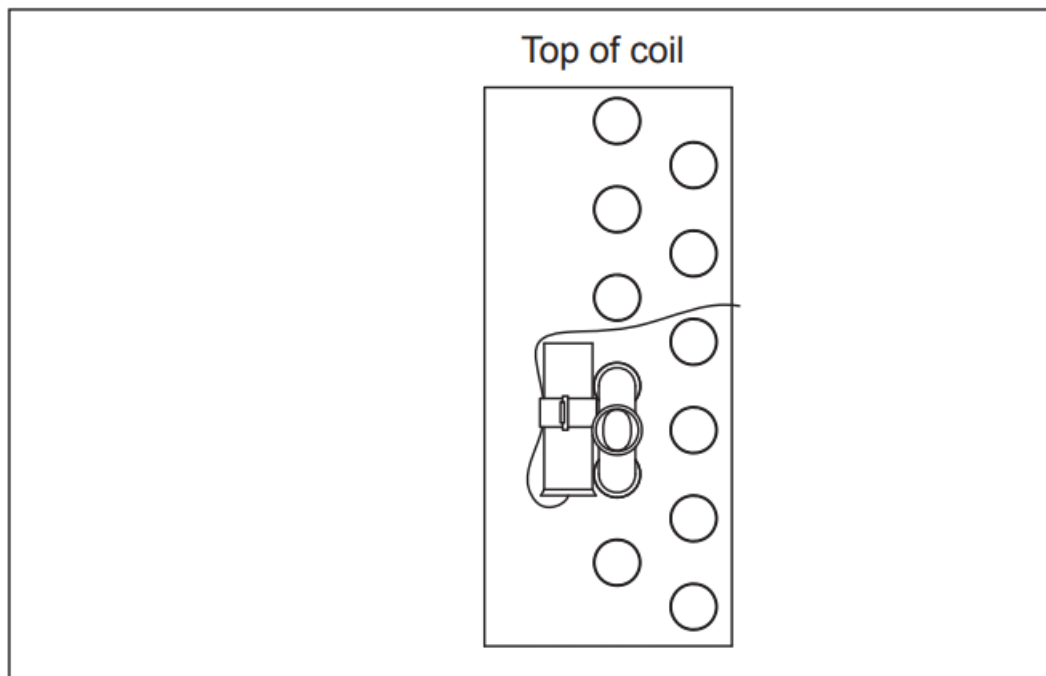

Figure 2
STEP 3- Find the coil return bend as shown in Figure 2 on which sensor will be mounted.